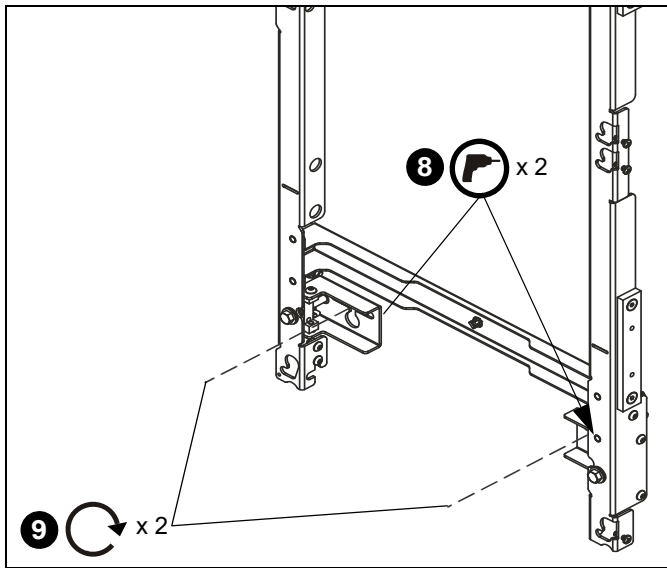

Figure 7
8. Drill lower pilot holes (see Table 1 for size) at attachment locations and follow fastener information (appropriate for wall type) located in Table 1. (See Figure 7)
9. Install two fasteners through lower part of mount and tighten. (See Figure 7)